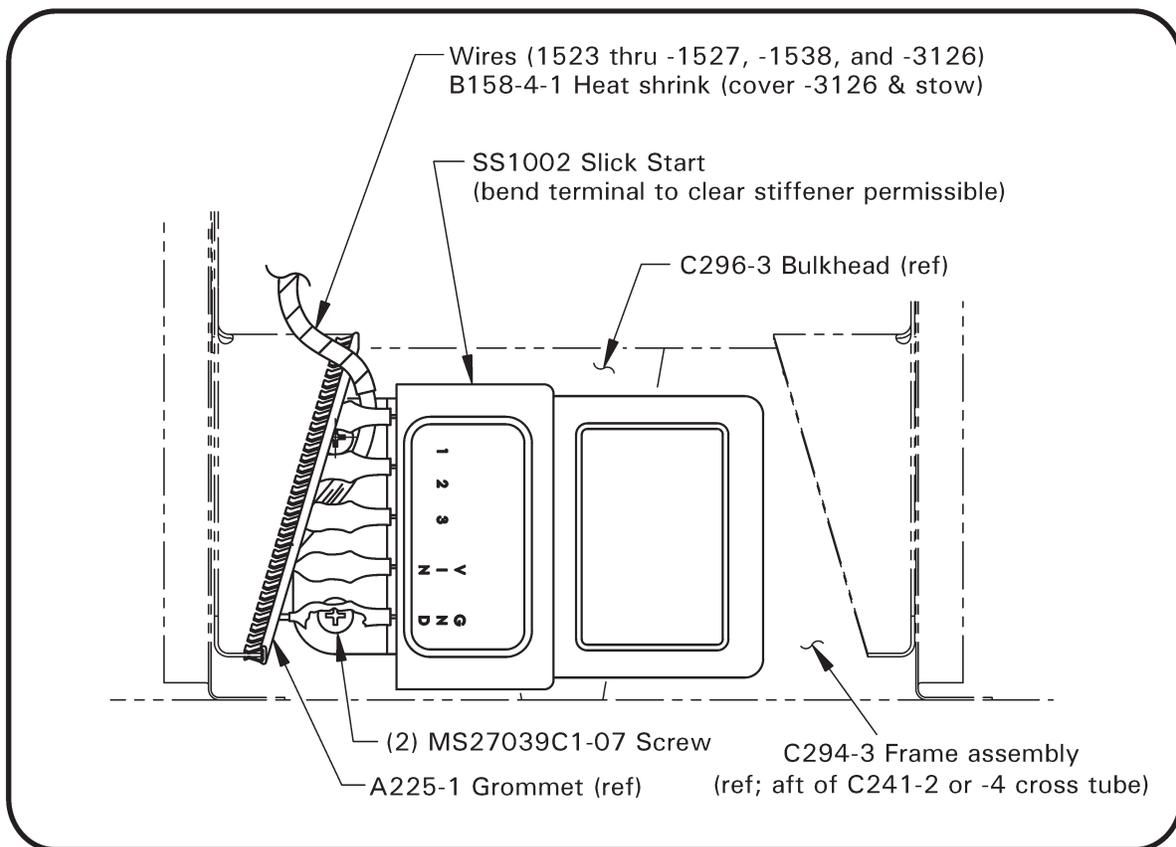

Figure 2A R44 II SS1002 SlickSTART® installation
Refer to Figures 2A & 3A, and IPC Figure 96-63B. Install SlickSTART® (magneto start booster) to frame assembly (located on C296 bulkhead) using (2) MS27039C1-07 screws in newly-vacated holes. Locate stowed wire (-1527) and wires (-1523 & -1525), two wires into one spade connector covered with black heat shrink, removing ty-raps as required. Remove heat-shrink covering wires. Connect airframe harness wires to SlickSTART® (magneto start booster) as shown. Secure covered wire using appropriately-sized ty-rap. Cinch ty-rap until snug without over-tightening, and trim tip flush with head.